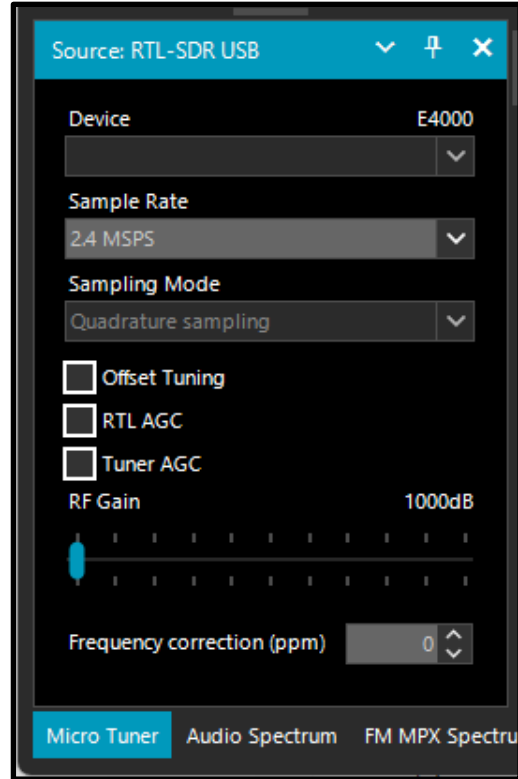

Figure 10: The gain adjustment bar is at the bottom of this picture.
19. Set the Gain. The gain adjuster is located on the main page of SDR#. Look at the bottom of the menu bar that is located on the left side of the screen (Figure 10). By default, the RTL-SDR's gain is set to zero. Increase this gain by moving the RF Gain slider up. Gain is an amplification factor—it increases the strength of the signal so that the software can detect it. Gain values of around 40 are commonly used. Alternatively, the AGC (automatic gain control) option can be enabled.